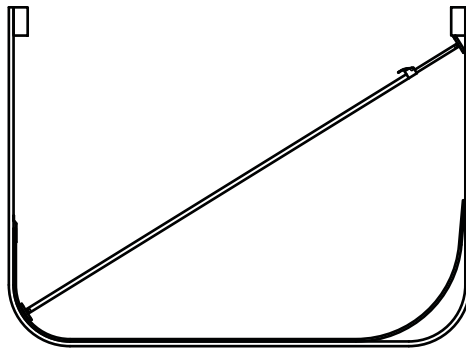

Figure 12
- 1) See **Figure 12**. Compress the liner (one side at a time) to the floor, the length of the body/trailer.